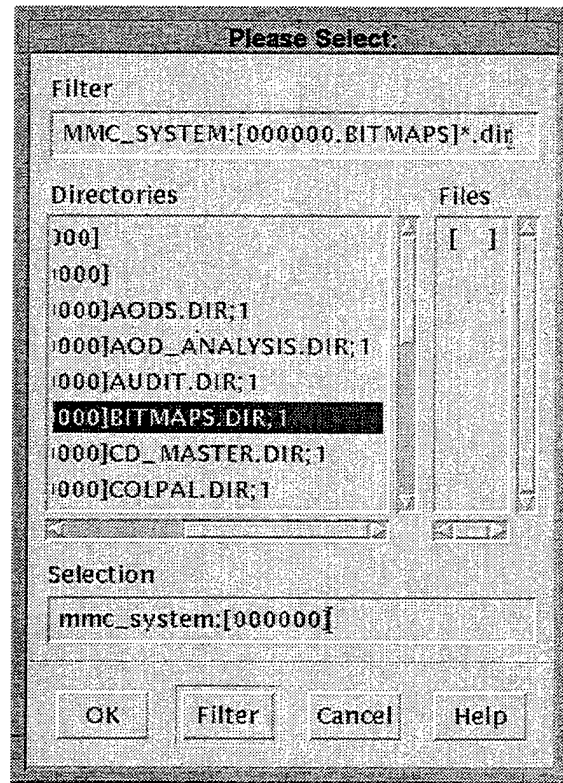

Fig. 35 — File selection window: MMC files to be archived to CD
- (2) *Aircraft Optical Data*: When archiving AOD data, MMC first checks whether there is a valid AOD image on the hard disk. If not, MMC will not allow the user to premaster. If there is a valid AOD image, MMC will ask the user to verify the data to be archived. Select *Yes* to proceed (or *Abort* to cancel the operation).
- (3) *Checklist/Data Frames Data*: Archives data frames (e.g., checklists) to CD. MMC will issue a verification message: select *Yes* to proceed (or *Abort* to cancel).
- (4) *Mission Planning Data*: When archiving MPS data, MMC first checks that there is a valid MPS image on the hard disk. If not, MMC will not allow the user to premaster. If there is a valid MPS image, MMC will ask the user to verify the data to be archived. Select *Yes* to proceed (or *Abort* to cancel).
- (5) *CDROM*: Use this option to make a duplicate copy of any CD. MMC will display a verification message (answer *Yes* to proceed) then the **CDROM Site Window**. Load the CD to be copied into the CD changer, then click on the *Start Processing* button at the bottom of the **CDROM Site Window** (see Sec. 4.1 for more information about loading and selecting CDs in MMC). MMC will take the user through the necessary steps to premaster the data.
- (6) *Other Data*: Use this option to archive any other data on the MMC system. (It is particularly important to backup the *bitmaps directory* on a regular basis.) MMC will display a verification message (select *Yes* to proceed) then a **File Selection Window** to help the user find the directory and file(s) to be included (Fig. 35). After selecting the data files, MMC will guide the user through the necessary steps to premaster the ISO image.